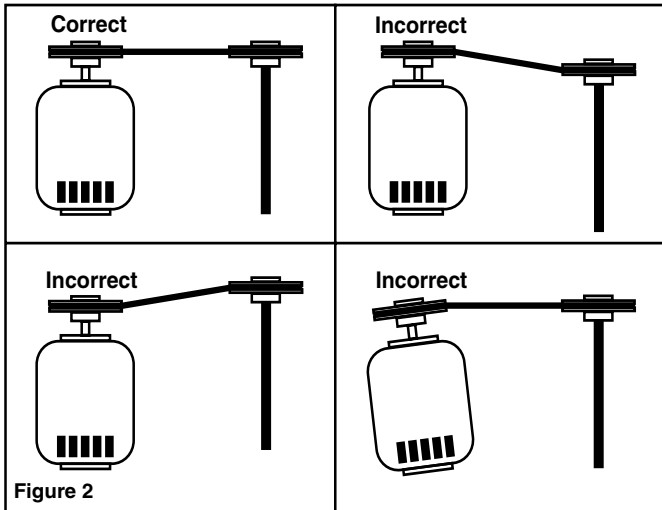
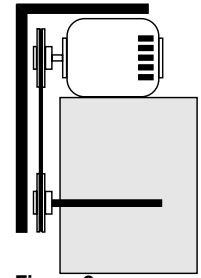

Figure 2
Figure 3
- d. Ensure pulleys are properly aligned. Refer to *Figure 2*.
Figure 2 illustrates correct and incorrect pulley alignment. A recommended method of inspecting the pulley alignment is shown in *Figure 3*. With the shorter leg of a carpenter's square or other straight edge lying along the case of the motor, adjust the position of the motor pulley (or the motor) until the longer leg of the square is parallel to the belt.